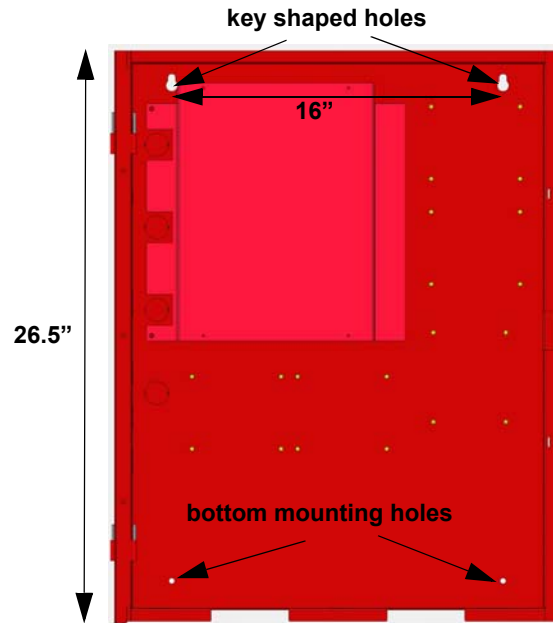

Figure 2 Cabinet Mounting Holes
1. Using the dimensions in Figure 2, mark and pre-drill the holes in the wall for the center top keyhole mounting bolts.